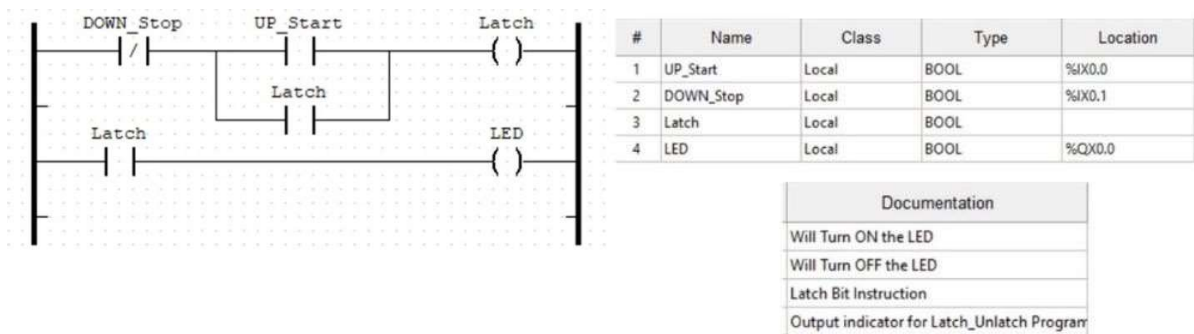

Fig. 5: Ladder Diagram for the Start-Stop Control Circuit
1. Create the ladder diagram shown in **Fig. 5**.